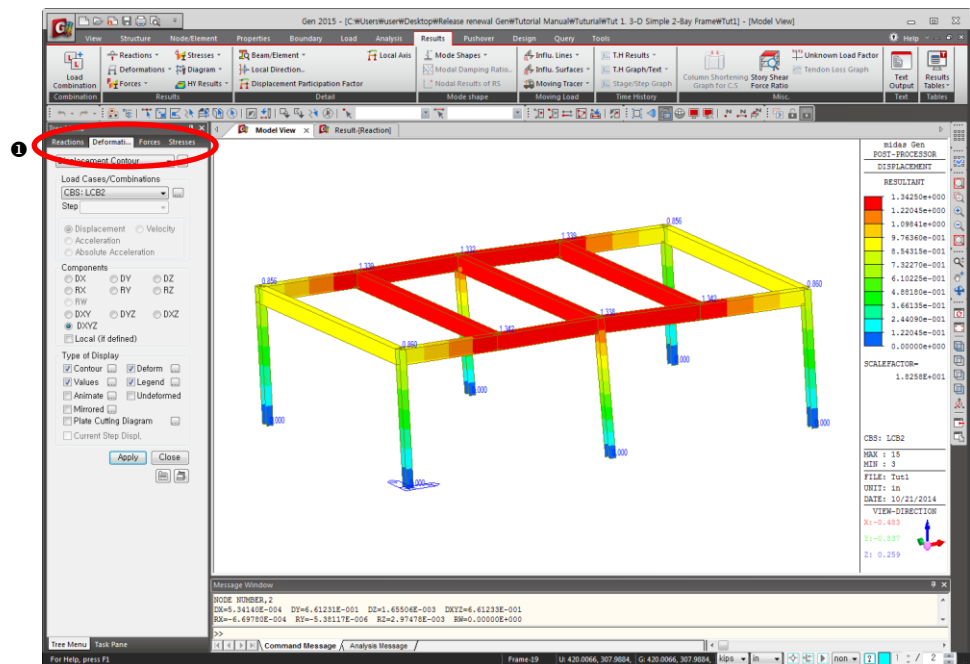

Figure 1.29 Deformed Shape (Contour lines)
1. Select **Displacement Contour** from the functions selection field (Fig.1.29–①).
2. Select **“CBS:LCB2”** from the **Load Cases/Combinations** selection field. ②
② ST: Static Load Case
The Gradation method is a tool to smoothen the contour distribution shown in Fig.1.29. In addition, the model is displayed in *Perspective View*.